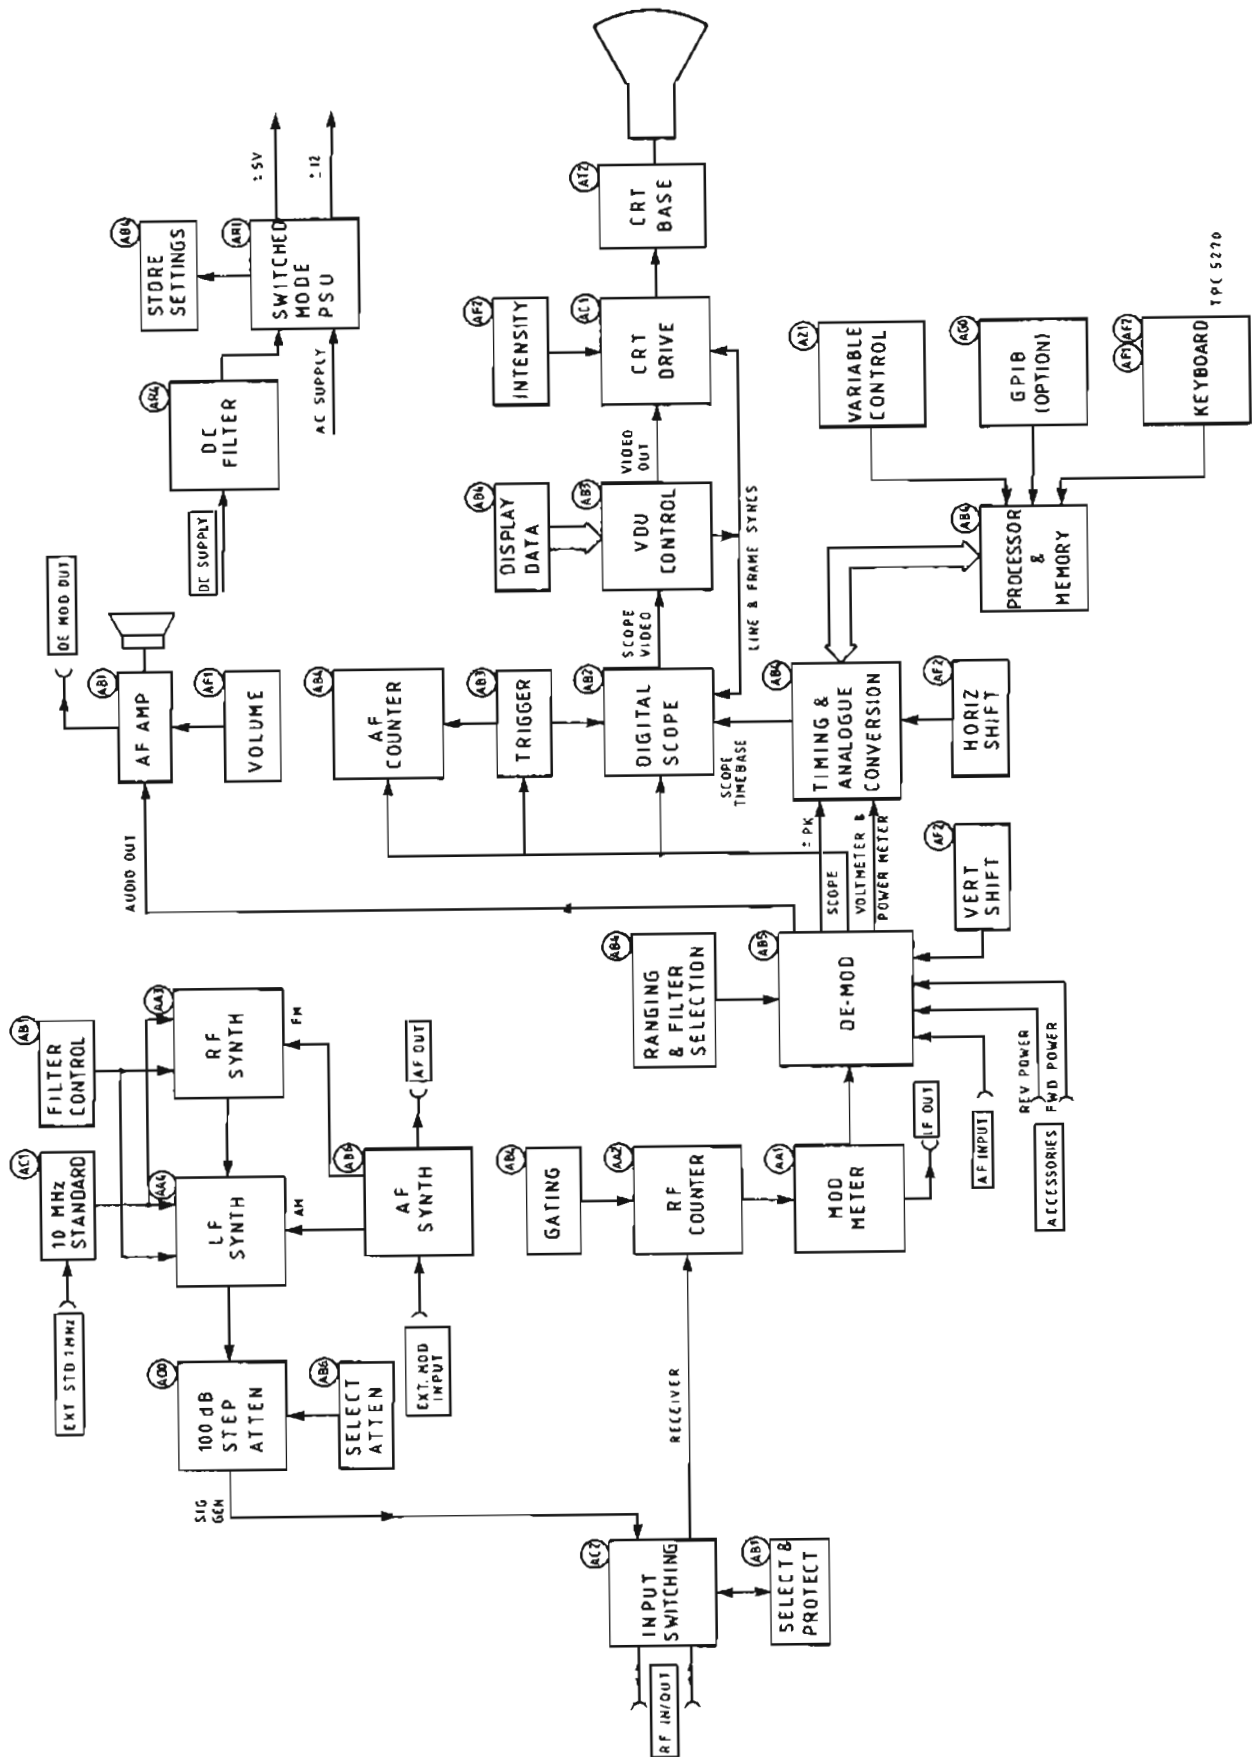

Fig. 1 Block schematic of 2955 showing main functions of boards
2. The block schematic for Radio Communications Test Set 2955 is shown in Fig. 1. This summarizes the main functions of the instrument. The RF IN/OUT sockets are protected against overload and may be configured for simplex or duplex operation. Signal output from the r.f. signal generator may be modulated by either the a.f. generator or by an input from the EXT MOD INPUT socket. The a.f. generator also feeds to the AF GEN OUTPUT socket. Both generators are phase locked to the frequency standard which may be either internal or from an external standard connected to the EXT STD 1 MHz socket. The r.f. signal input is taken to the r.f. counter, the r.f. power meter and the modulation meter. An output is taken from the meter at the 110 kHz i.f. and fed to the IF OUT socket. Input to the voltmeter section is selected from the demodulated signal, from the AF INPUT socket or from the optional r.f. directional power head connected to the ACCESSORIES socket. Switched filters follow which may be externally selected as well as internally switched to provide the distortion, signal/noise and SINAD functions. Analogue signals from the voltmeter and power meter are converted to digital form for measurement by the processor. From the filters outputs are fed to the DE-MOD OUT socket and audio amplifier for monitoring purposes, and to the a.f. counter and oscilloscope for display. Most of the functions of the instrument, including the display, are controlled by the microprocessor which besides responding to the front panel controls, regulates peripheral input/output via the GPIB.